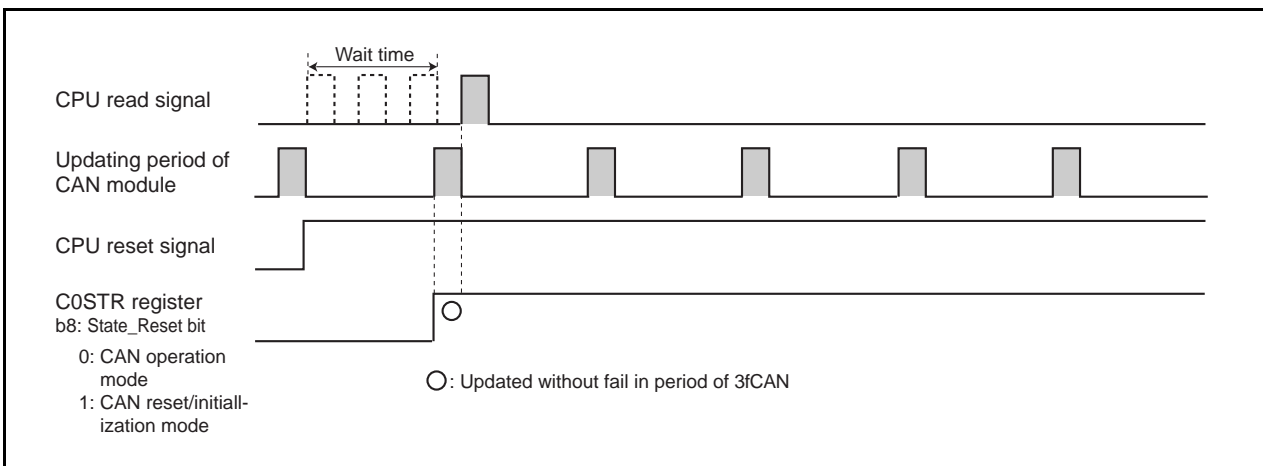

Figure 18.27 With a Wait Time of 3fCAN Before CPU Read
- There should be a wait time of $3f_{CAN}$ or longer (see Table 18.4) before the CPU reads the C0STR register. (See Figure 18.27)